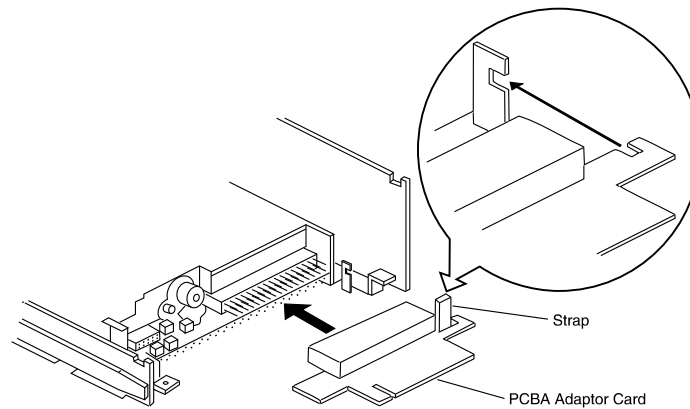

Figure C-8. Floppy Disk Drive Unit PCBA 5 Inch Adapter Card
13. Place the FDD assembly on a work bench equipped with an ESD protection pad and carefully remove the PCBA 5" Adapter board illustrated in Figure C-8, making sure not to bend or twist the connector pins. Remove the mini power cord unless already removed in an earlier step.
3. Hold the new FDD by the metal sides and carefully re-assemble it into the 5.25" mounting hardware and bezel. Resecure the FDD using the four 3 millimeter Phillips head screws removed in Step 14 of "Removing The Floppy Disk Drive Unit". Re-assemble the PCBA adapter board, being careful to realign the tabs shown in Figure C-8.